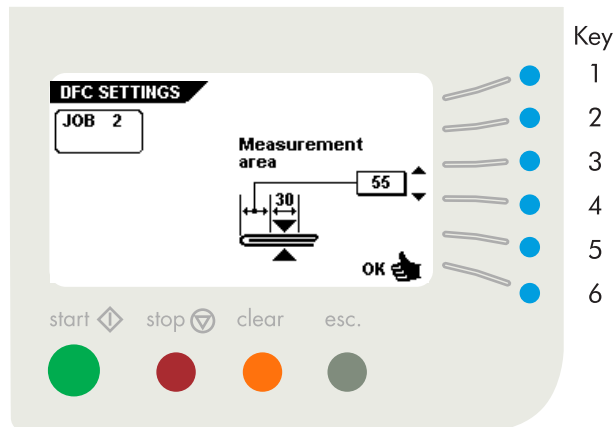

Fig. 48
After pressing key 5 in the "DFC settings" menu, the display shows the screen as shown in fig. 48. The following choices are available:
- set the position of the detection area earlier (key 3).
- set the position of the detection area later (key 4).
- confirm the settings by pressing "OK" (key 6) which will get you back to the double document detection menu.